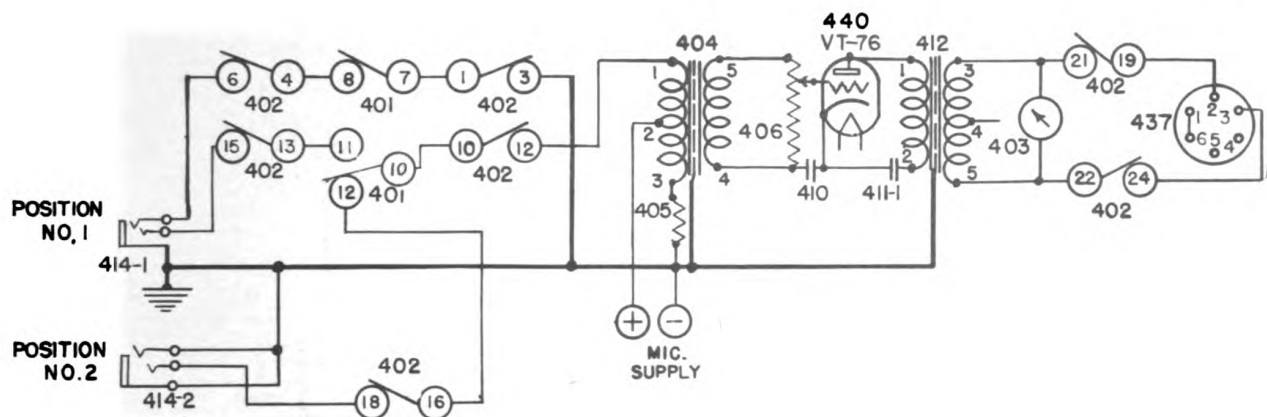

FIG. 18 CONTROL UNIT RM-7-B, ADJUSTED FOR REMOTE OPERATION, VOICE CIRCUIT
(1) Voice—Fig. 18 shows the voice circuit of the Control Unit RM-7-B adjusted for remote operation. Functionally the control unit is a stage of audio amplification between either of the two microphone jacks 414-1 and 414-2 and the outgoing line plug 437. This figure shows the switch contact positions which complete the circuit.